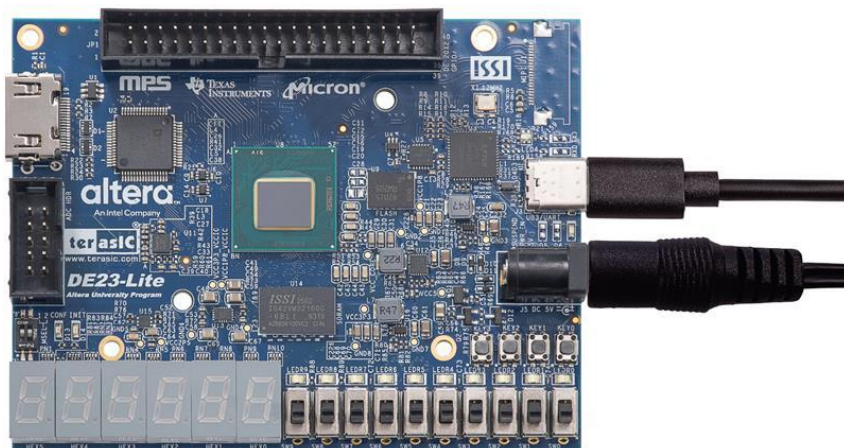

Figure 5-3 Power and USB cable connection for the board
5. Ensure that the USB blaster connector (J3) of your DE23-Lite is connected to your host PC with a USB cable (see **Figure 5-3**) and the board's power is powered on.